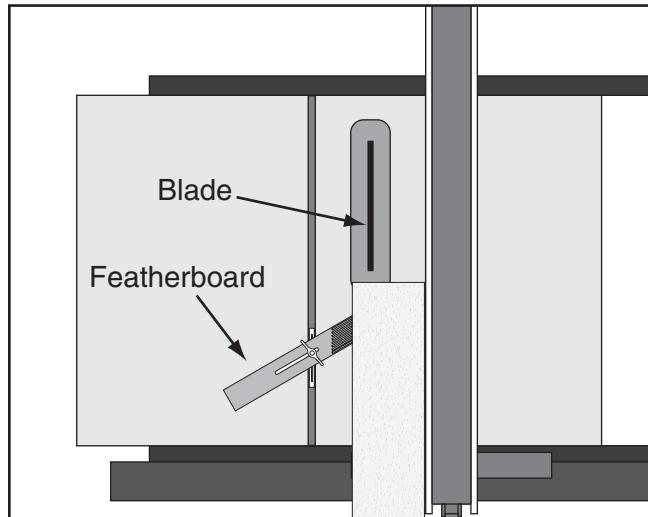

Figure 82. Featherboard installed in miter slot and supporting workpiece for ripping cut.
3. Slide featherboard miter bar into miter slot, making sure fingers slant toward blade, as shown in **Figure 82**.